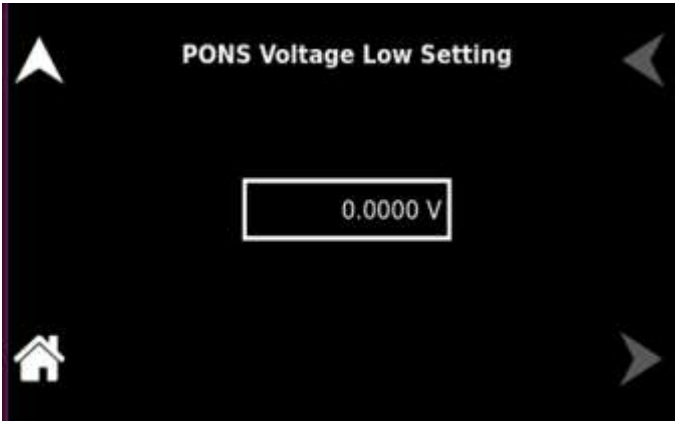

Figure 8-128. PONS Voltage Low Settings
**PONS Voltage Low Limit** User can set a low voltage limit value, which functions as a trip limit (CC and CC/CP), or it regulates (CC/CV) the output upon reaching the PONS Voltage Low Limit. Refer to Figure 8-128.